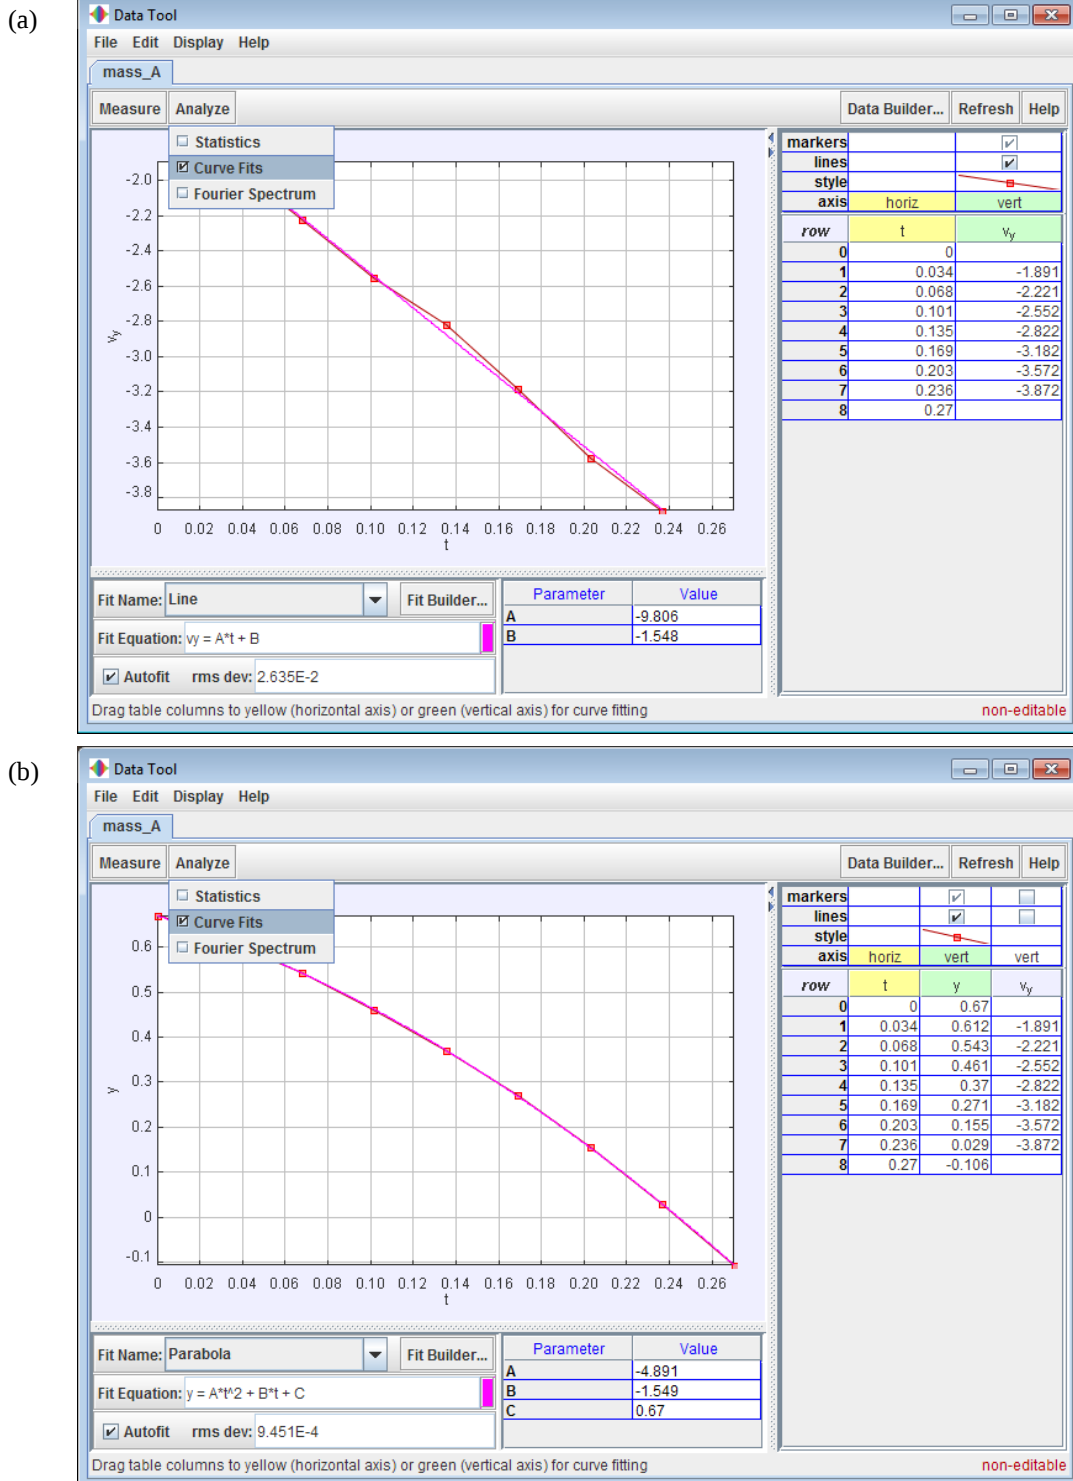

Figure 3-5. The Data Tool window. (a) Velocity vs. time. (b) Position vs. time.
- Right click on the plot and select “analyze.” This will open a data tool window. Check the “Curve Fit” box in the Analyze menu to display the curve fitter. See Fig. 3-5 (a).
- In the data table to the right, you may notice that the “vy” column is still there. If it is, uncheck “markers” and “lines” for that column so that you only have one data set on the plot to the left. See Fig. 3-5 (b).